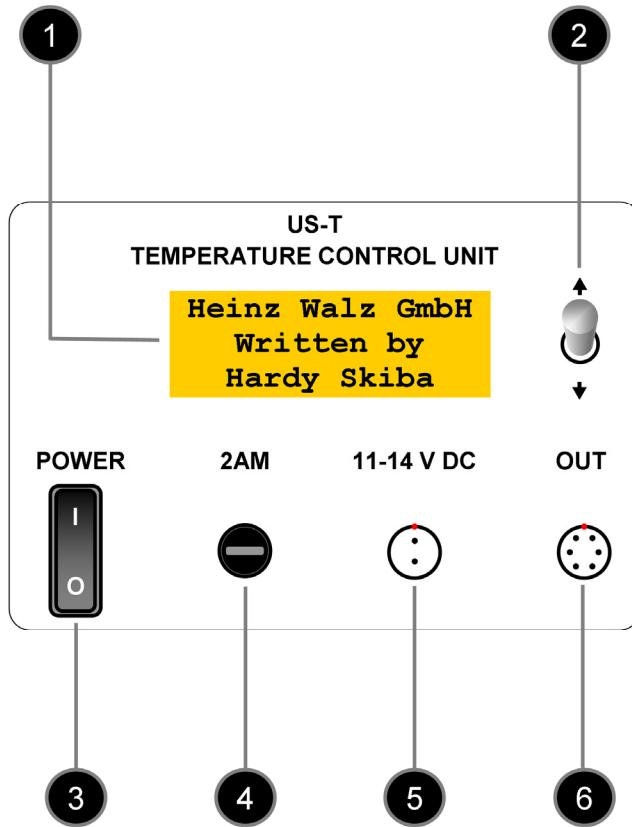

Fig. 2: Front panel of Power-and-Control Unit US-T/DR
- Connect AC adapter and Peltier-Heat-Transfer Head to Power-and-Control Unit US-T/DR (see Fig. 2, page 8).